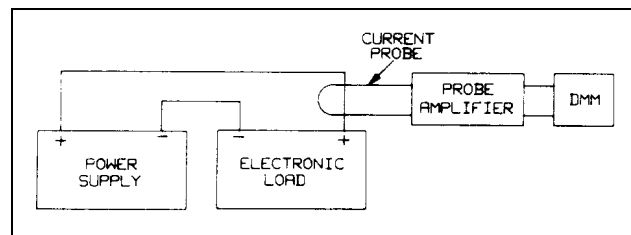

Figure 2-3. Test Setup C
- a. Connect the Electronic Load, power supply (Agilent 6032A or equivalent), DMM, and current probe as shown in Figure 2-3. Set power supply for 10V and >10A.